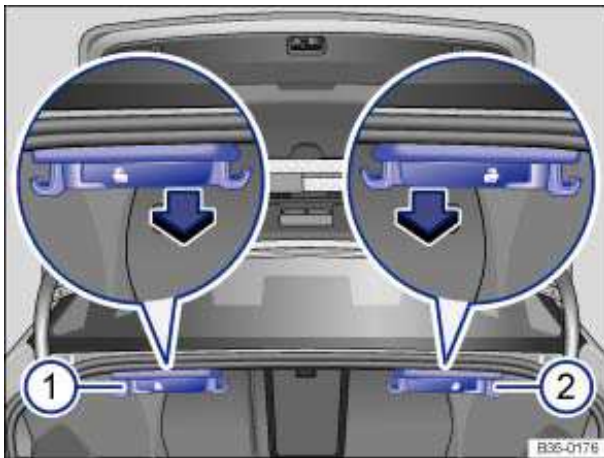

Fig. 88 In the luggage compartment: Release lever for the left 1 and right 2 sections of the rear seat backrest.
- Pull the remote release lever for the left ⇒ fig. 88 \(1\) or right (2) rear seat backrest in the direction of the arrow. The unlocked section of the rear seat folds forward automatically.